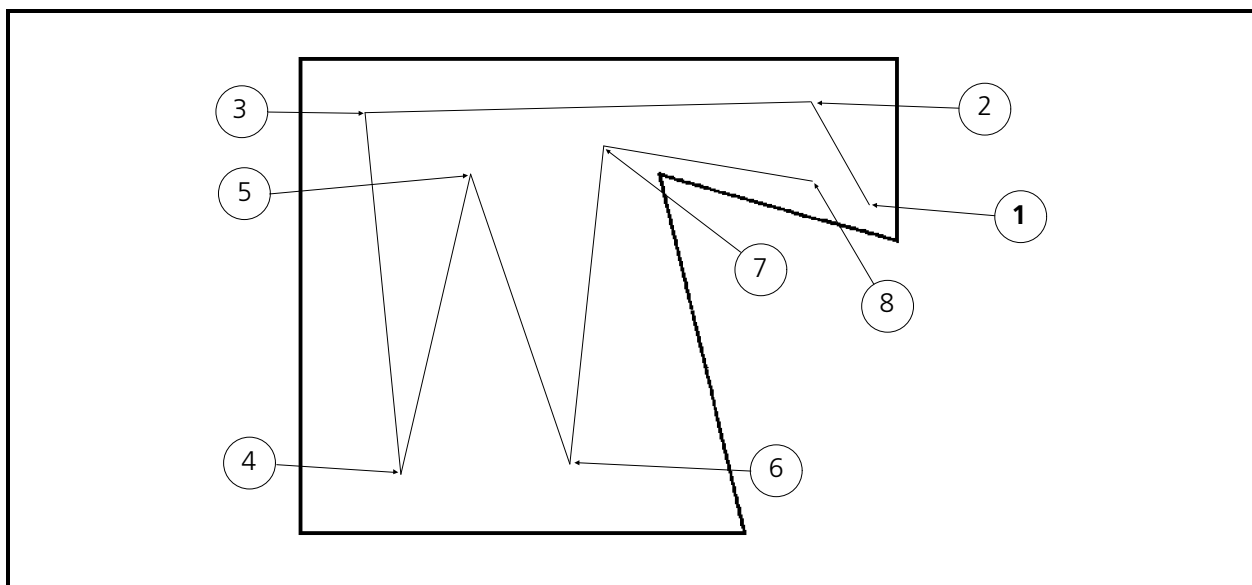

Figure 6-68
- #10 Always digitize the smaller fills first when digitizing a design that requires more than one fill to complete the total fill. An example of this rule is found with the first fill digitized with the irregular shaped block in Figure 6-68.
The image on the display will look similar to the illustration in Figure 6-68.
6. Click in the area in the shape identified as location 1 in Figure 6-68 to put a Mk1 at that location.
8. To keep the material from puckering or migrating during the fill stitching, digitize a running stitch underlay by entering Mk1s at locations 2 through 8 as shown in Figure 6-68.